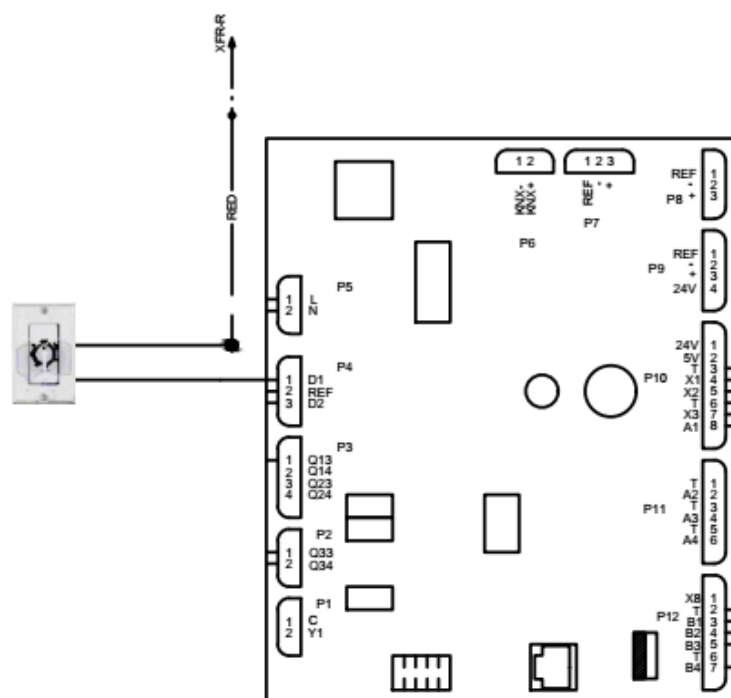

FIGURE 28 - Version 1 (Egg Timer/Analog Connection)
4. Connect the LOAD side of the timer switch to the D1 terminal wire [See **FIGURE 28 - Version 1 (Egg Timer/Analog Connection)**].